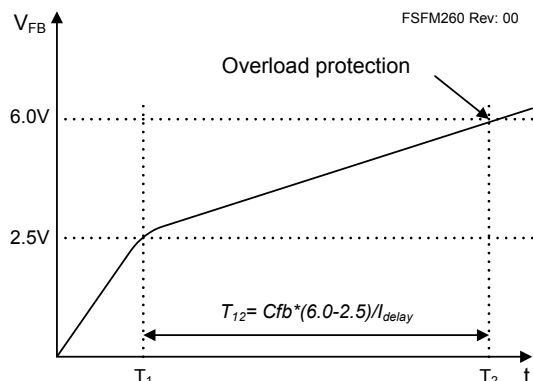

Figure 20. Overload Protection
3.1 Overload Protection (OLP): Overload is defined as the load current exceeding a pre-set level due to an unexpected event. In this situation, the protection circuit should be activated to protect the SMPS. However, even when the SMPS is in the normal operation, the overload protection circuit can be activated during the load transition. To avoid this undesired operation, the overload protection circuit is designed to be activated after a specified time to determine whether it is a transient situation or an overload situation. Because of the pulse-by-pulse current limit capability, the maximum peak current through the SenseFET is limited and, therefore the maximum input power is restricted with a given input voltage. If the output consumes beyond this maximum power, the output voltage (V_o) decreases below the set voltage. This reduces the current through the opto-coupler LED, which also reduces the opto-coupler transistor current, increasing the feedback voltage (V_{FB}). If V_{FB} exceeds 2.5V, D1 is blocked and the 5μA current source starts to charge C_B slowly up to V_{CC} . In this condition, V_{FB} continues increasing until it reaches 6V, when the switching operation is terminated, as shown in Figure 20. The delay time for shutdown is the time required to charge C_B from 2.5V to 6.0V with 5μA. In general, a 10 ~ 50ms delay time is typical for most applications.